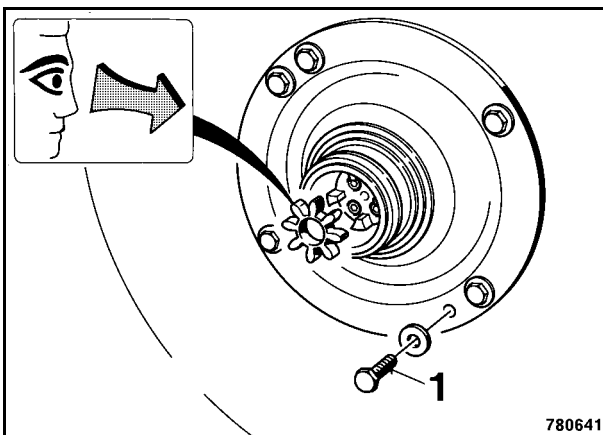

Fig. 9
12. Fasten the bearing housing with screws 1 (Fig. 9).